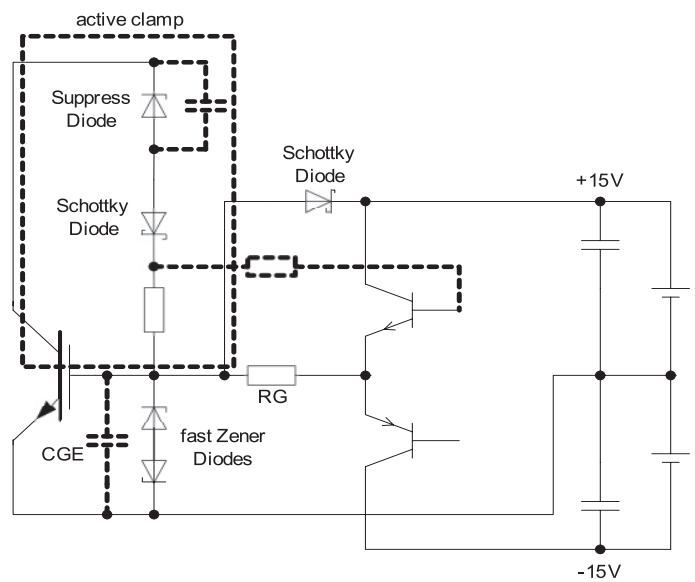

Fig. 3: Gate-drive recommendations
Clamping of the gate voltage to 15 V for protection against high inductive short-circuit events is also recommended. This can be achieved by either clamping the gate-voltage as close as possible to the gate-emitter auxiliary terminals of the module with anti-series fast zener diodes, or by a feedback from the gate to the +15 V supply capacitor via a fast Schottky barrier diode (fig. 3).
If the turn-off over-voltage of the module cannot be kept below V_{CES} (1), due to high stray inductance or dc-link voltage, an active clamp circuit can be used, as shown in fig. 3. This is particularly important for HiPak modules with a rated blocking voltage of 1700 V or lower, since these devices exhibit faster switching speeds.